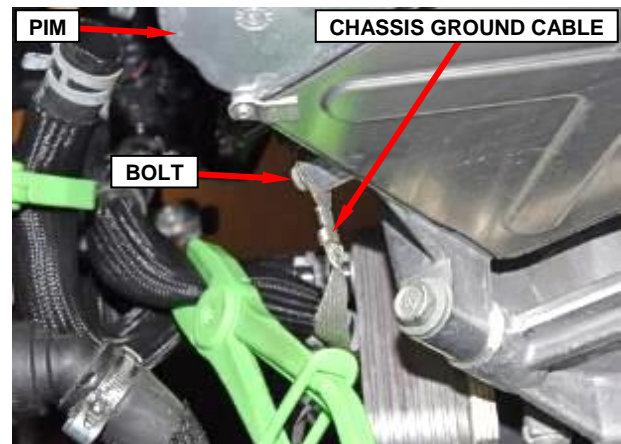

Figure 29 – Chassis Ground Cable
55. Remove and save the bolt securing the chassis ground cable to the PIM (Figure 29). Reposition the chassis ground cable.
9. Position the chassis ground cable to the PIM then install and tighten the chassis ground cable bolt to 9 N·m (80 In. Lbs.) (Figure 29).